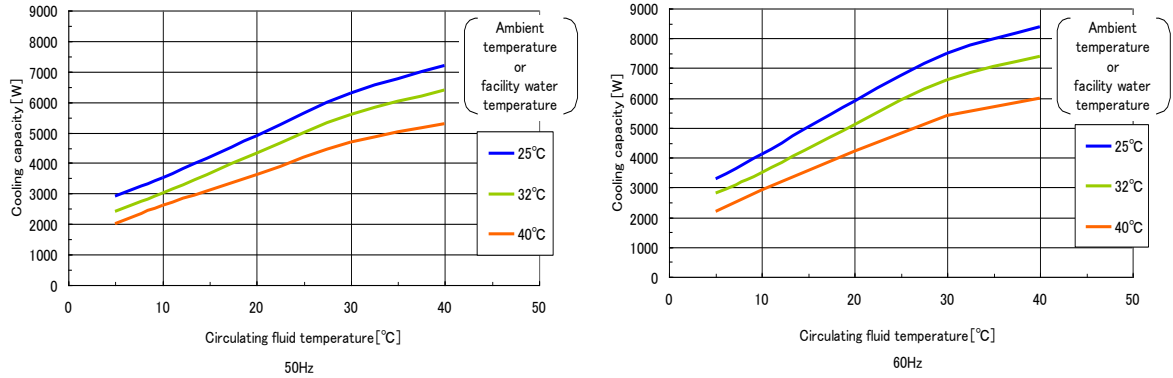

Fig. 9-4 Cooling capacity(HRS060-**-20-(BJM))
*The amount of the facility water for the operation with rated circulating fluid, cooling capacity which is described in fig.9-4.